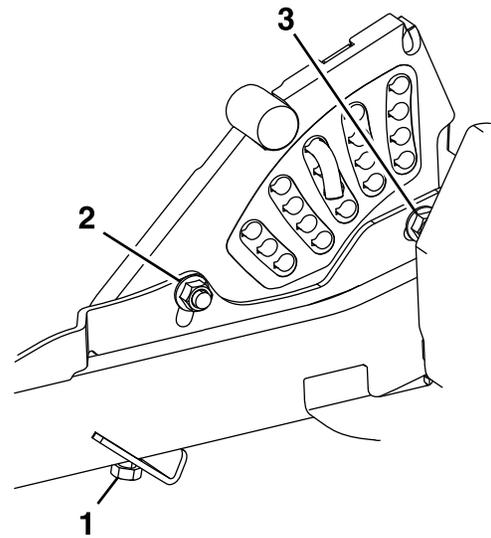

Figure 80
- If the deck is too low, tighten the single-point adjustment bolt by rotating it clockwise (Figure 80).